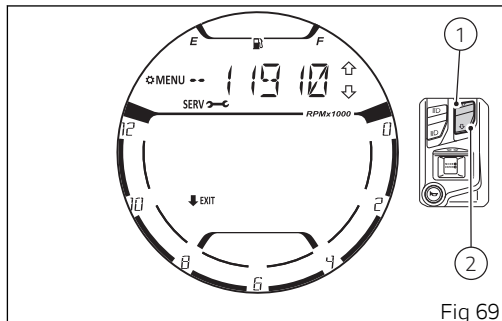

Fig 69
Upon entering the function, the display shows as first information the "Desmo service" indication (Fig 69).
Upon pressing button (1) or button (2) the instrument panel displays in sequence "Oil Service" (Fig 70), "Annual Service" (Fig 71) and then "Desmo Service" again (Fig 69). To quit the function press button (2) for 2 seconds.